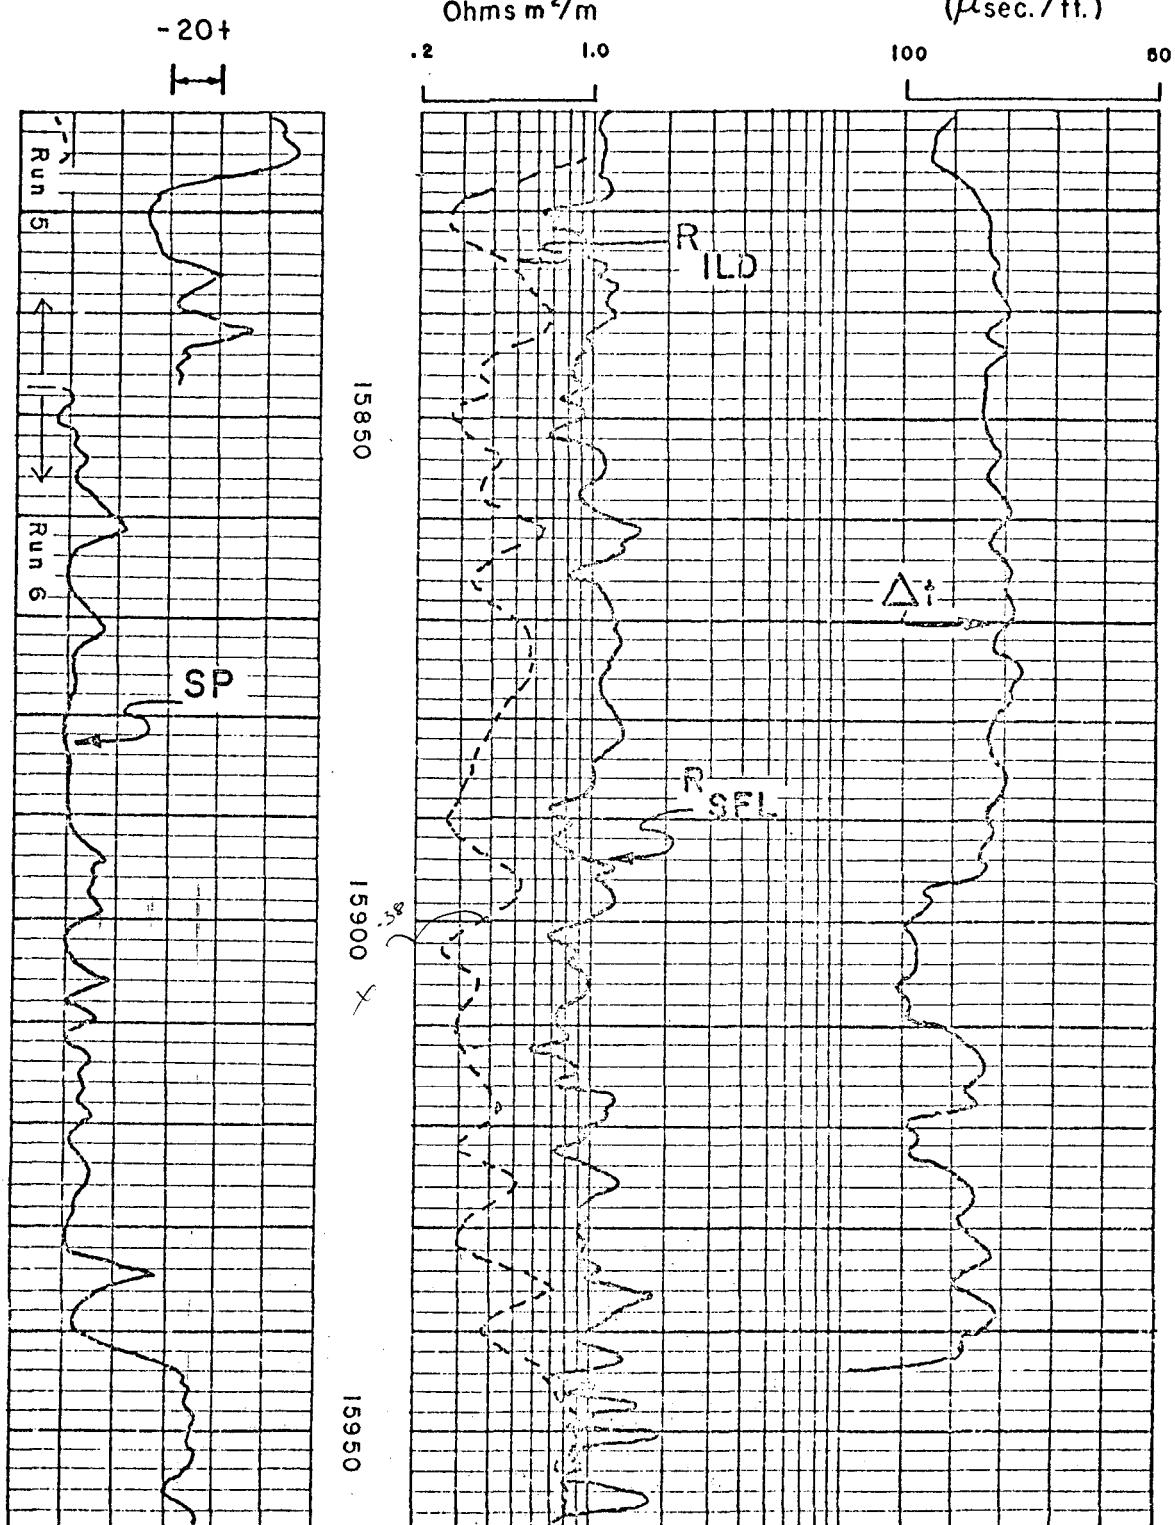

Figure 1
The target sand is the Bol Mex "F1" which occurs at a depth of 15,826 to 15,942 feet (KB) in the C.A. Kennedy #1 well (See ISF/Sonic log in Figure 1). The Bol Mex series of sands extends from 15,215 to 16,084 feet (KB) as shown in the ISF log in Figure 2.